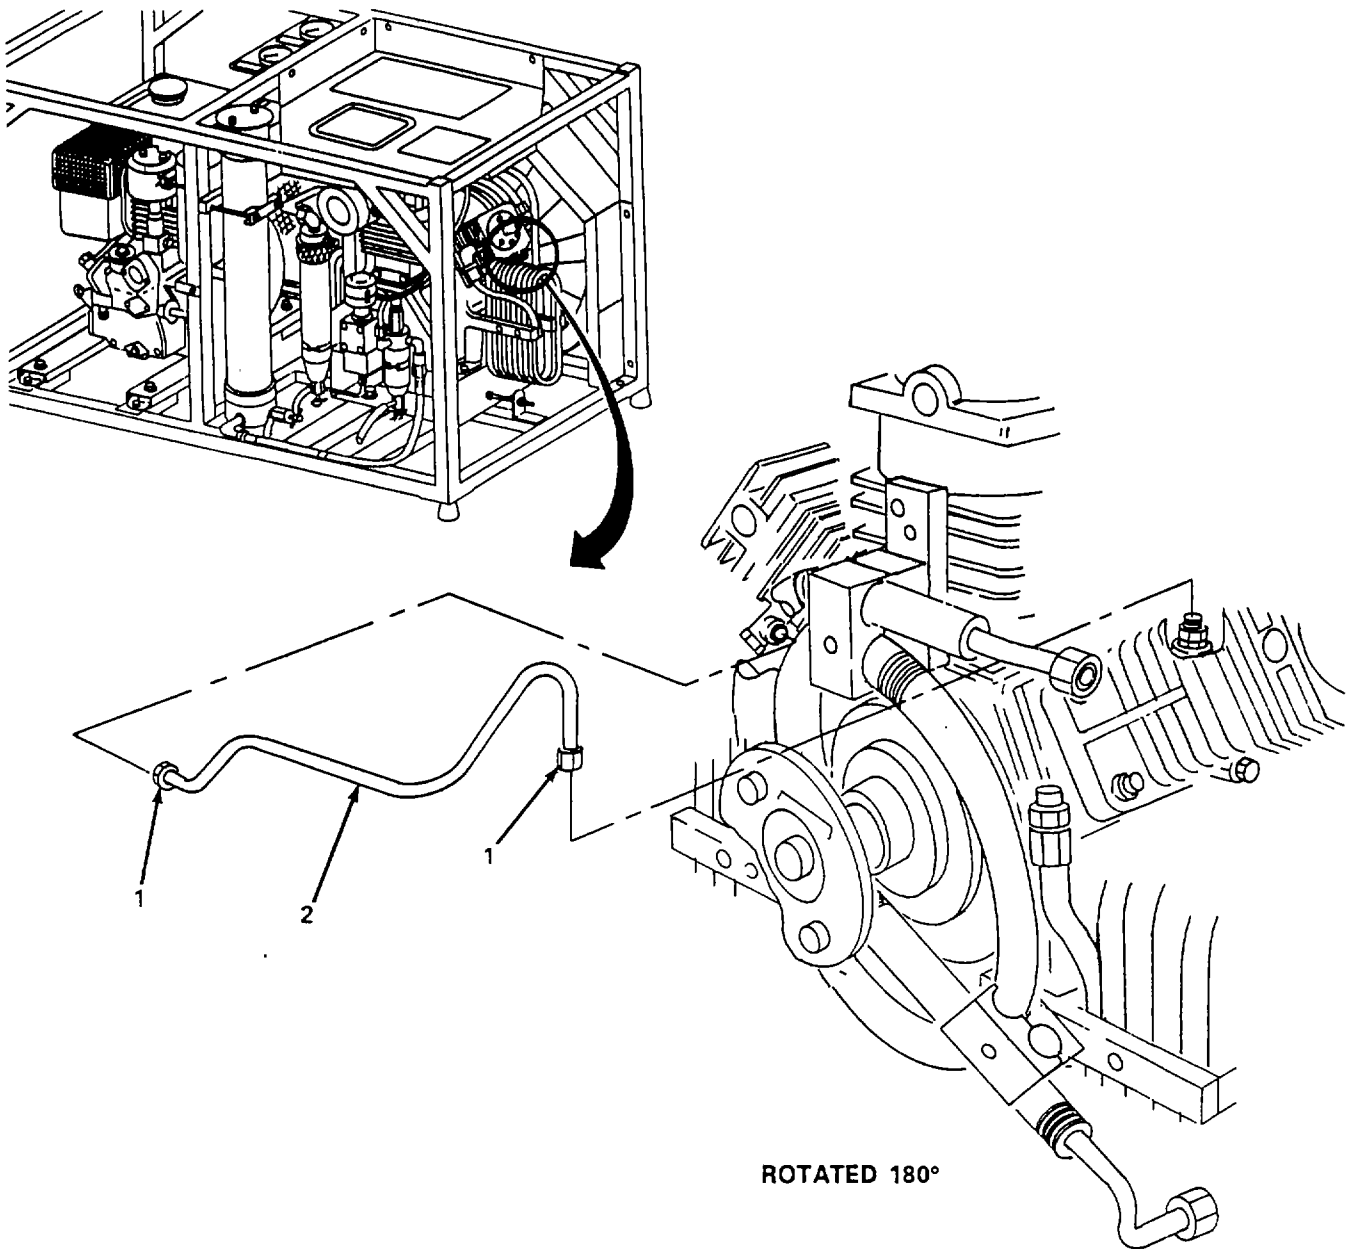

Figure 5-19. Oil Feed Line, Replace.
c. Replace Oil Feed Line. (figure 5-19)
- (1) Remove flywheel fan (para. 5-11).
- (2) Loosen two connector nuts (1) and remove oil feed line (2).
- (3) Install oil feed line (2) and tighten two connector nuts (1).
- (4) Install flywheel fan (para. 5-11).